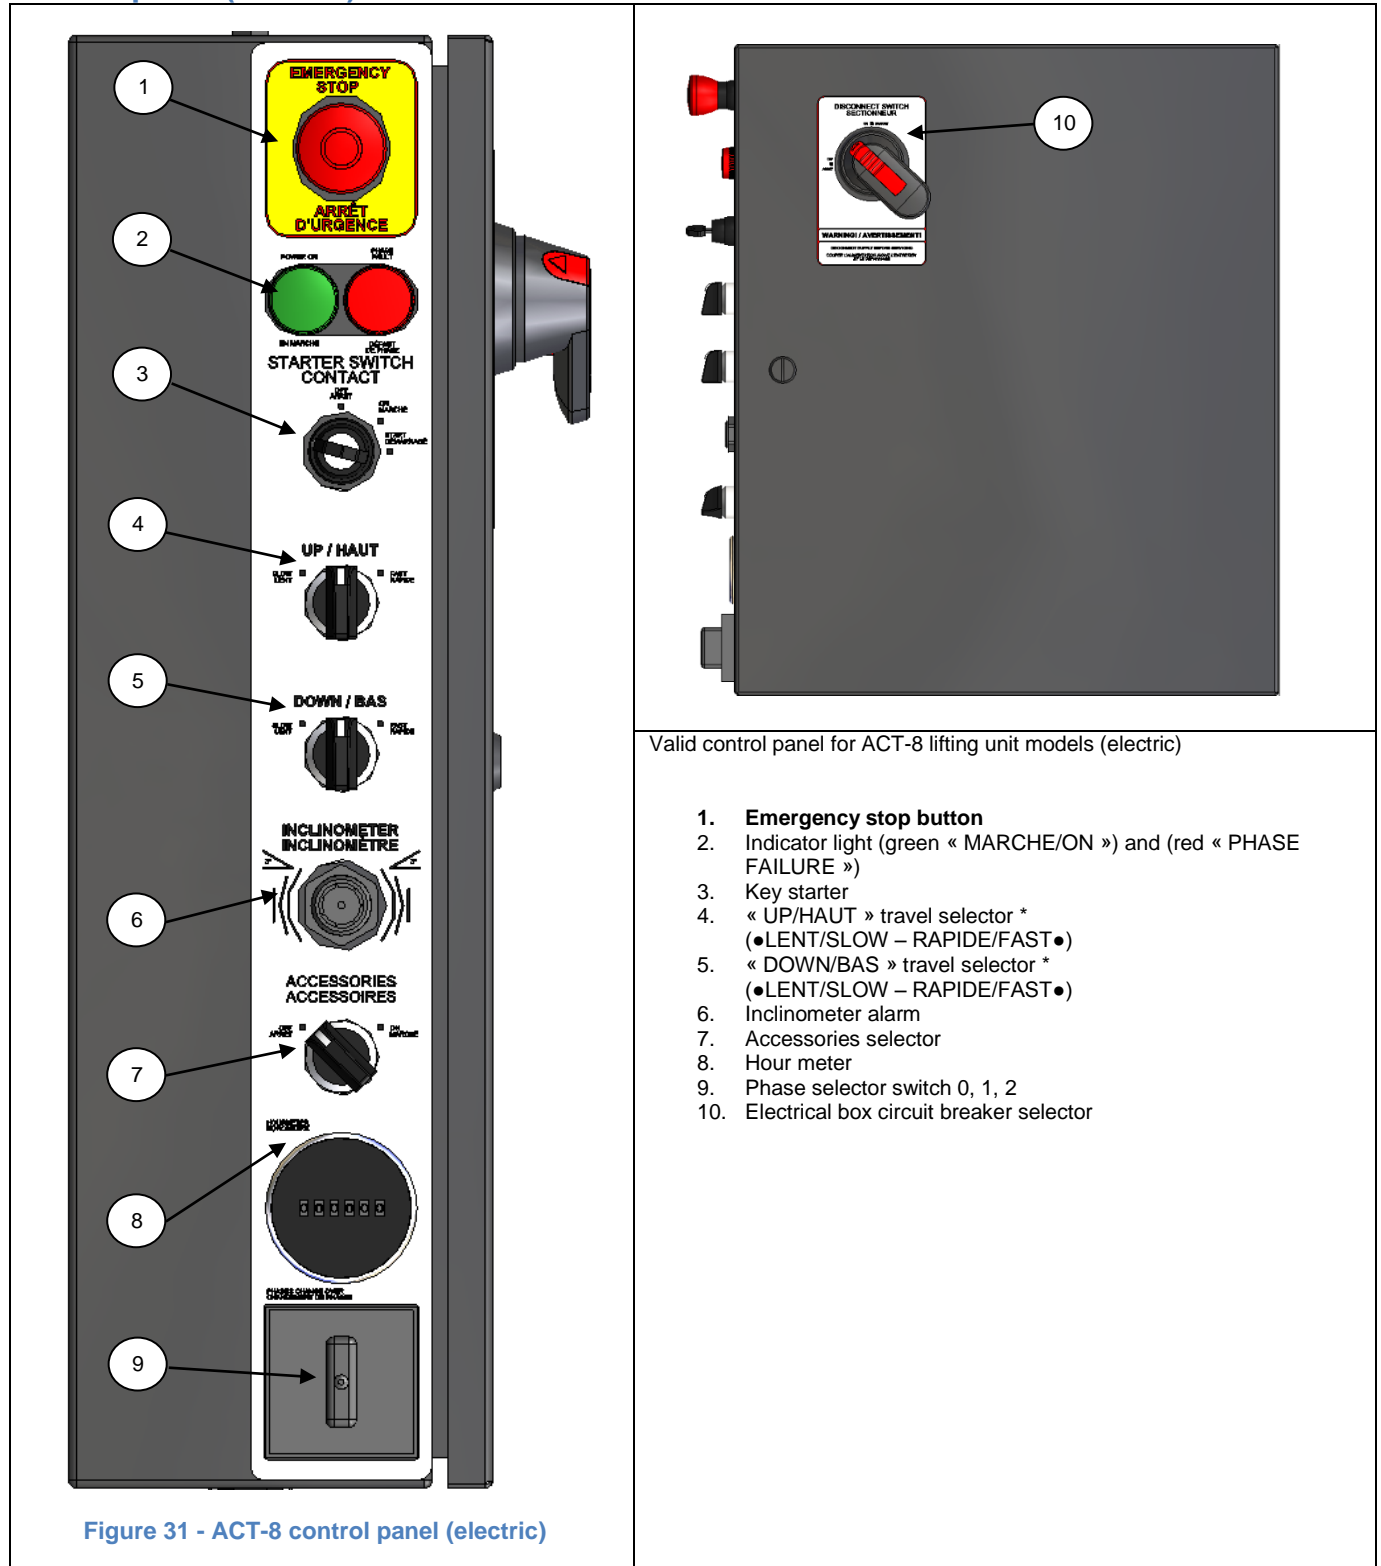

Figure 31 - ACT-8 control panel (electric)
- All loads likely to slip or fall from the platform must be secured. Keep the platform free of debris, rubbish, snow, etc. Make sure that no tools or other objects extend beyond the outer perimeter of the platform limited by the plankings and guardrails. At any time, you can stop operation by pressing the **EMERGENCY STOP** button (See Figure 29 and Figure 31). In the event of breakage or malfunction, secure the platform.
- 3- Make sure the « emergency stop button » (see Figure 31) is released.
- 8- Turn the « CONTACT » key (see Figure 31) to the « START » position. If the engine does not start and the « PHASE FAULT » indicator light is lit, turn the phase shift selector to another position « 0" or « 1" or « 2". This should turn off the « PHASE FAULT » indicator light. If the problem persists, contact a FRACO representative.
### Inclinometer alarm (See Figure 29 and Figure 31):
In the event of a malfunction or when using the « **Emergency Stop Button** » (See Figure 29 and Figure 31), or a stop caused by the inclinometer (SEE USING THE INCLINOMETER, ON PAGE 30), the emergency descend system can be used to position the platform at a lower level, allowing safe evacuation or restarting of the machine.